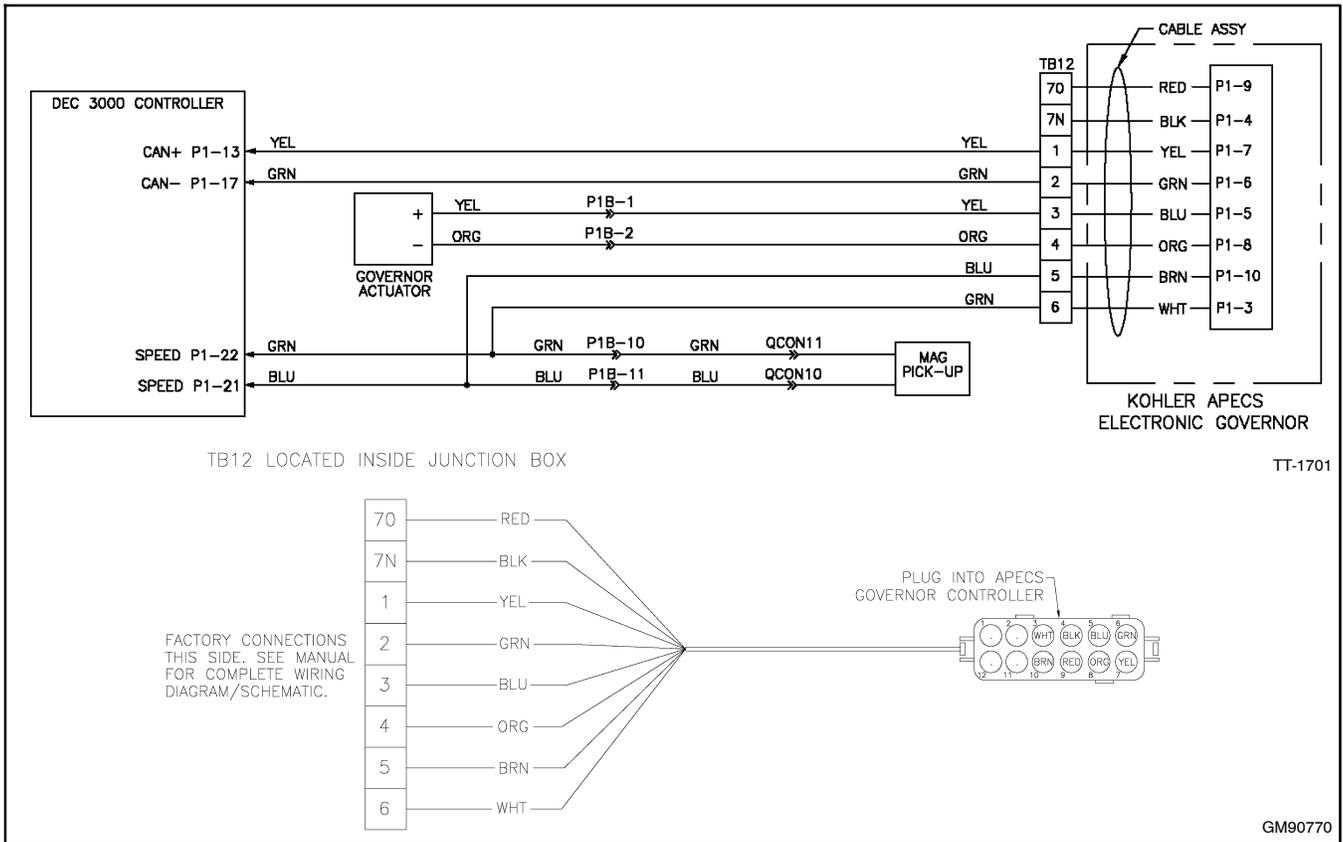

Figure 9 Electronic Governor Wiring Diagram and Wiring Harness GM90770, Typical
- 4.2 Connect governor harness GM90770 to terminal strip TB12 in the junction box using Figure 9. Do not plug the governor harness connector to the electronic governor at this time.